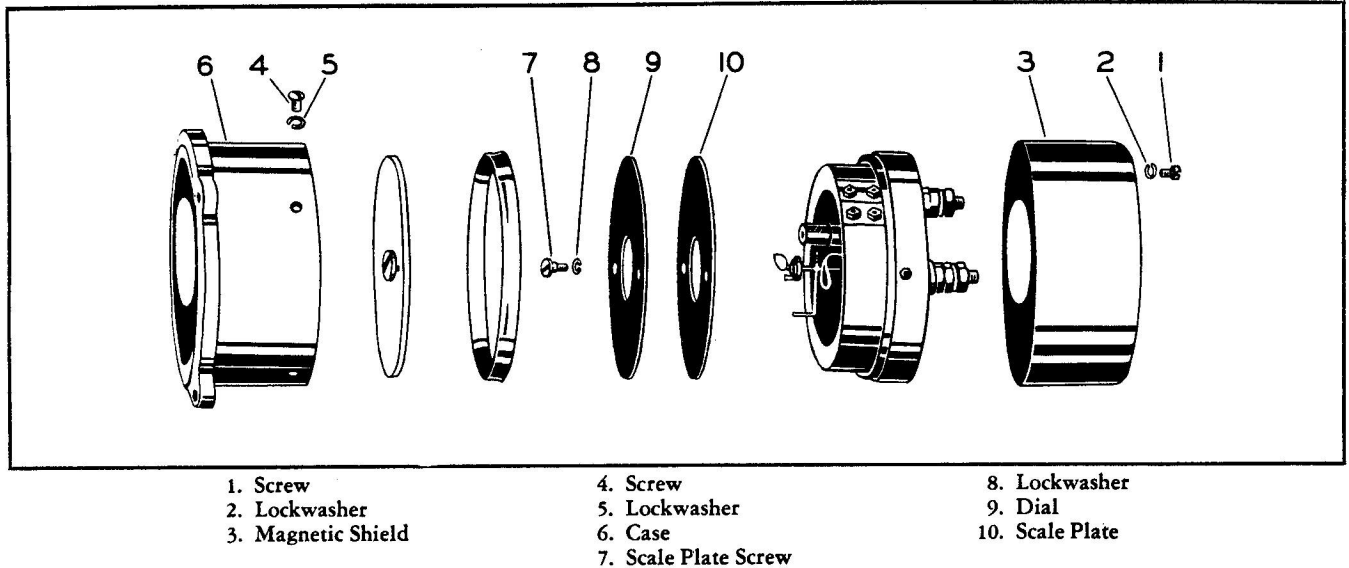

Figure 2-6. Exploded View of Indicator
**2-77. DISASSEMBLY.** (See figure 2-6).